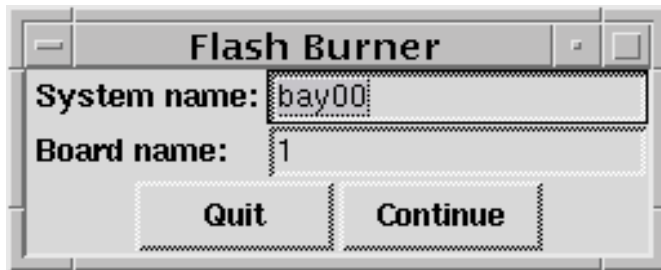

FIGURE 141 Flash Burner
24. Restart the the Flash burner from the GUI in Figure 141 again on the same board. Then select option 2.) Transfer Diags.